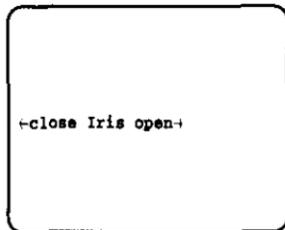

Fig. 4
1. Display the Iris Menu as shown in Fig. 4 by repeating the previous procedures.